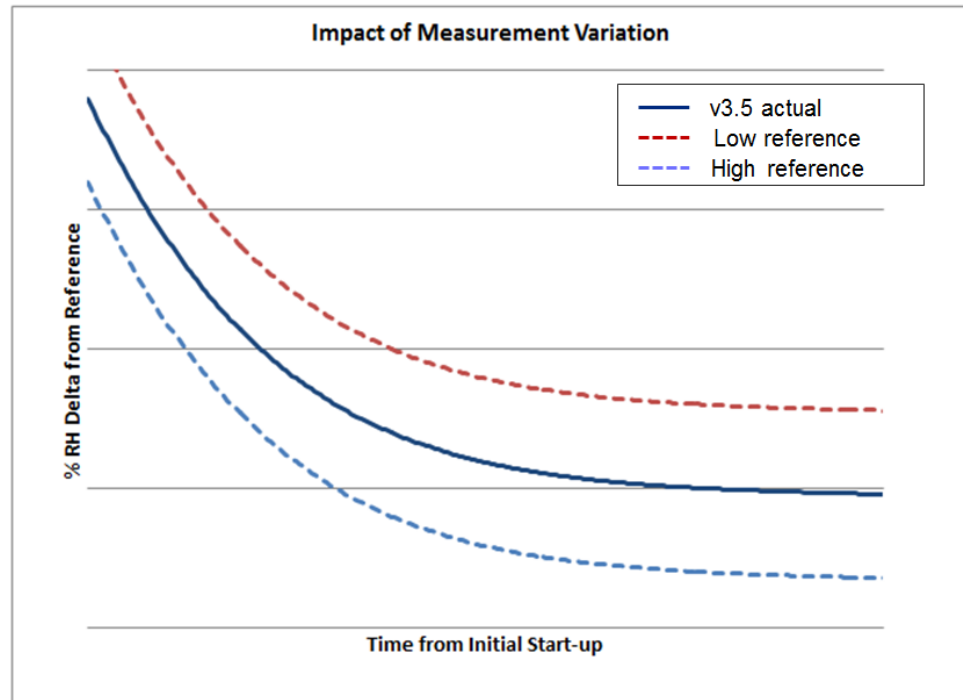

Figure 3: Impact of measurement variation
- For the same reasons, field measurements of relative humidity are also highly variable making establishing an accurate reference reading difficult. Inaccuracies in the field measurement compound the perception of the thermostat reading being inaccurate. Figure 3 shows an illustration of the impact of measurement variation. In the case shown, a low reference measurement leads to a higher %RH delta.